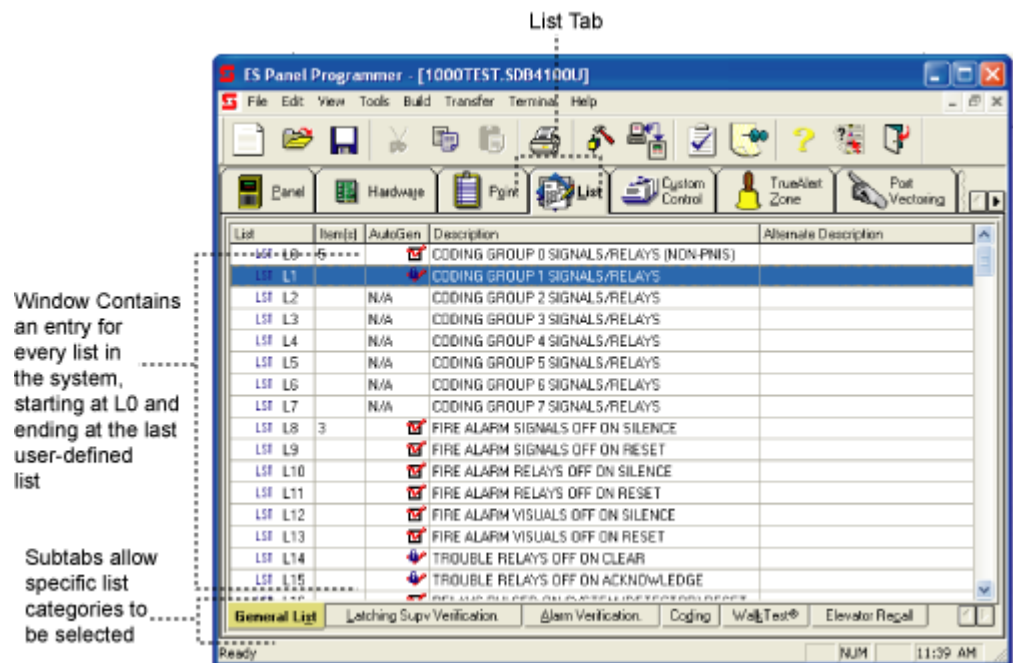

Figure 9-1. General List
Select the **List** Tab to display the List Tab window, shown in Figure 9-1. By default when you select the List Tab, the **General List** subtab, located on the bottom right of the window, is selected. This window contains an entry for every list in the system.
1. Open the List Window by selecting the List Tab at the top of the Programmer. See Figure 9-1 for the location of this tab.
1. Open the List Window by selecting the **List** Tab at the top of the Programmer. See Figure 9-1 for the location of this tab.